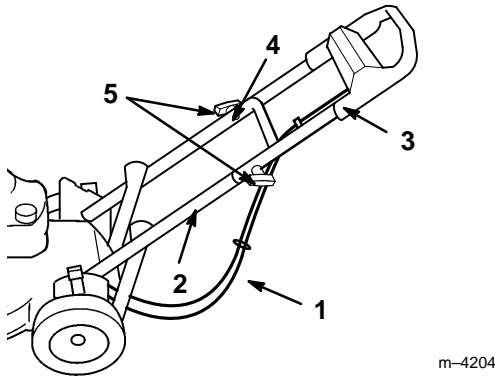

Figure 3
4. Slide the upper handle section ends over the lower handle so that the sections nest together (Fig. 3)
5. Make sure that the cables are routed below and behind the lower handle as illustrated in Figure 3.
6. Secure the upper handle to the lower handle using two contoured handle bolts and two knobs (Fig. 3).